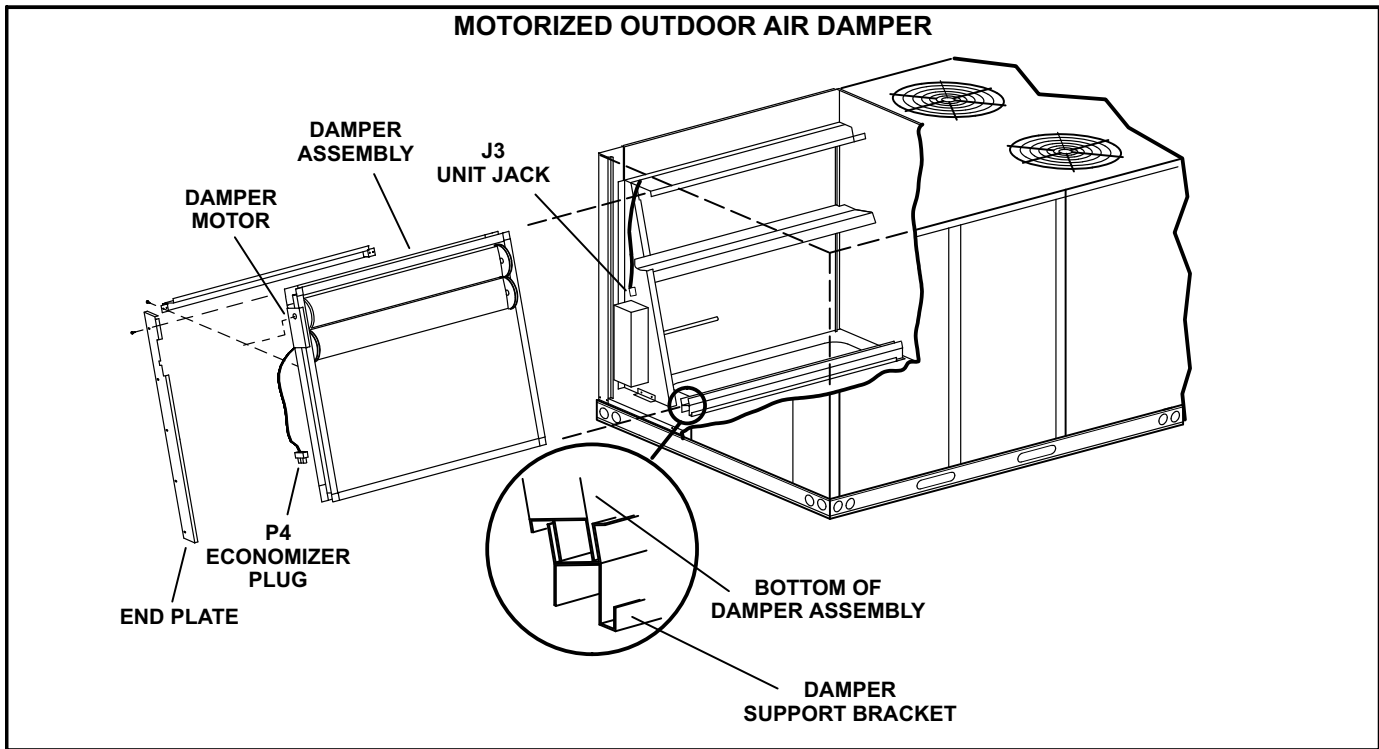

FIGURE 1
Damper opens to a set position, as shown in the “Determine Fresh Air Percentage” section, when the blower is operating. Both blower operation AND an occupied signal are required for dampers to energize. See figure 1.
- 3- Align bottom of damper assembly with support bracket and slide assembly into unit. See figure 1.